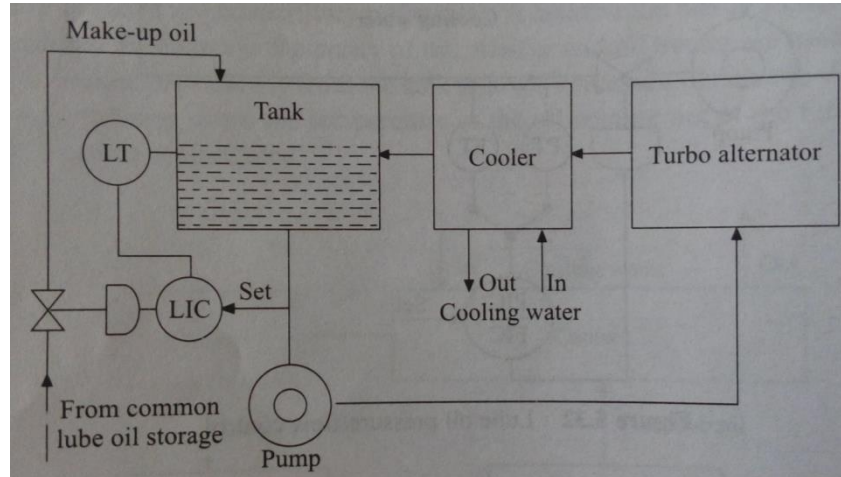

Figure 18 Lube Oil Tank Level Control
- The schematic diagram is shown in figure 18